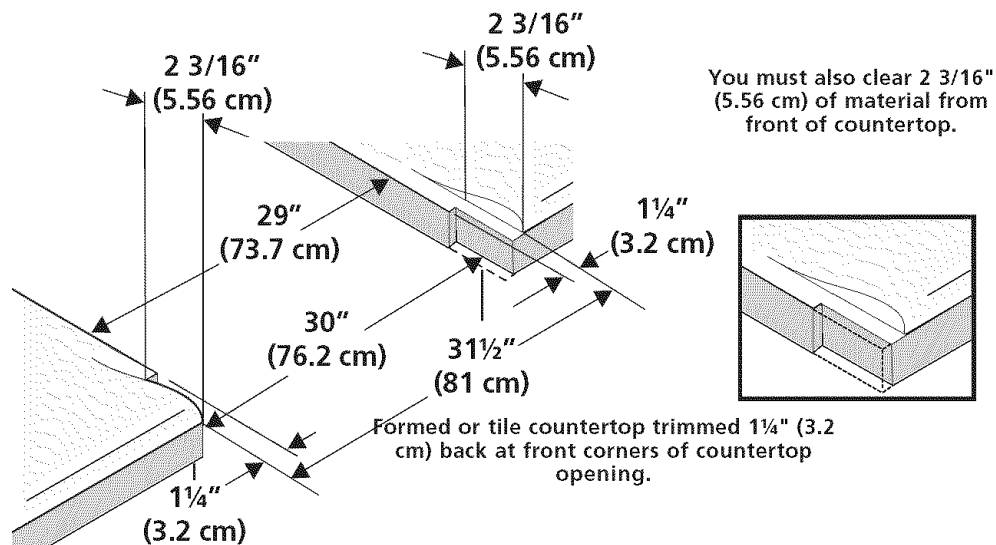

Figure 3
- 1.3 **IMPORTANT** • For existing cutout width of **29" (73.7 cm)** (Figure 3):